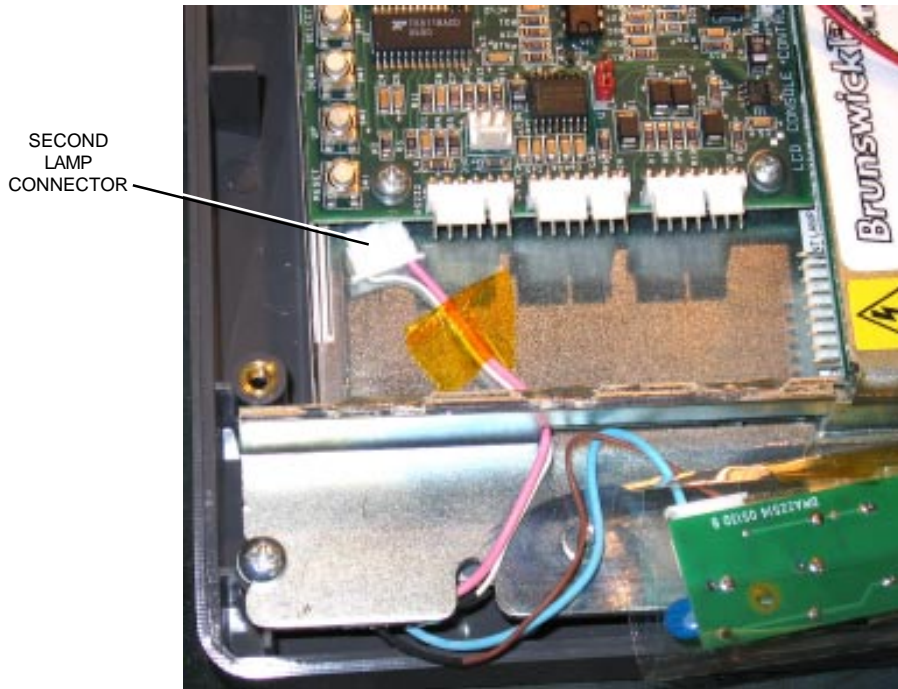

Figure 9
5. Identify the previously unused second lamp connector, the white plastic connector with white and pink wires attached. Refer to Figure 9.